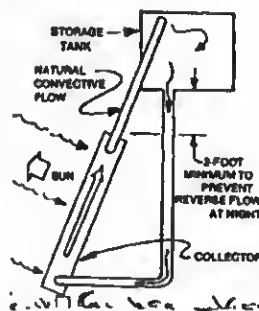

Fig. 6: Position the storage tank above the collector to prevent nighttime reverse flow.
2. The thermosiphon system is another solar water heating method (Fig. 6). Sunlight strikes tubes and fins inside a collector box through which water or glycol is circulating. The inlet and outlet of this collector are plumbed, respectively, to the inlet end outlet of the storage tank. If we were talking about electricity and polarity, we'd say the collector is in parallel with the storage tank. Still, it forms a loop. The heated fluid moves from the collector to the storage tank and back to the collector through a process called thermosiphon. This is a natural convective action. If you plumbed this as an open system, the storage tank could be your own water heater.
The easiest way to avoid this is by positioning the bottom of the tank above the top of the collector (Fig. 6). This is a physics trick that will prevent reverse flow. Sometimes it's
The solar collector itself is something of a mystery to many folks and I get many questions about it. A common configuration uses a box, a grid of water tubes, insulation, and glass or plastic glazing (Fig. 6). The box is a large shallow pan, with designs varying smaller and larger in width and length than a standard sheet of 4x8-foot plywood and 4-6 inches in depth. Manufactured designs use stainless steel or aluminum for the boxes but most homebuilt units use plywood. If properly glued and screwed and sealed against weather, they are tough.